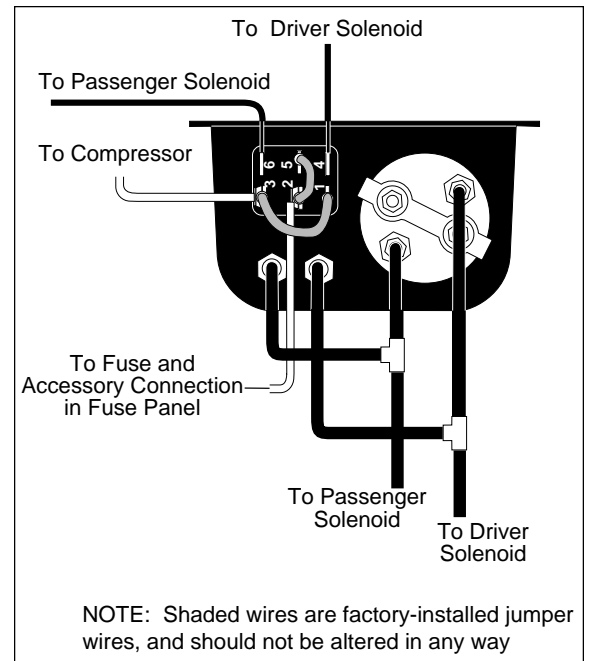

Figure 6
3. Measure the length of wire necessary to route from solenoid to gauge panel. If it exceeds 24", use a butt connector and additional wire. Attach a female blade connector to each wire and connect the left one to terminal 4 on the toggle switch and the right one to terminal 6 (Figure 6).